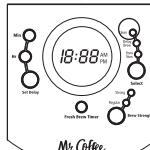

Figure 10
4. Press the SELECT button until the red CLEAN indicator light turns on (Figure 10). For your convenience the cleaning cycle is automatic. The entire cycle will take 45-60 minutes to complete. During the cleaning your coffeemaker will: